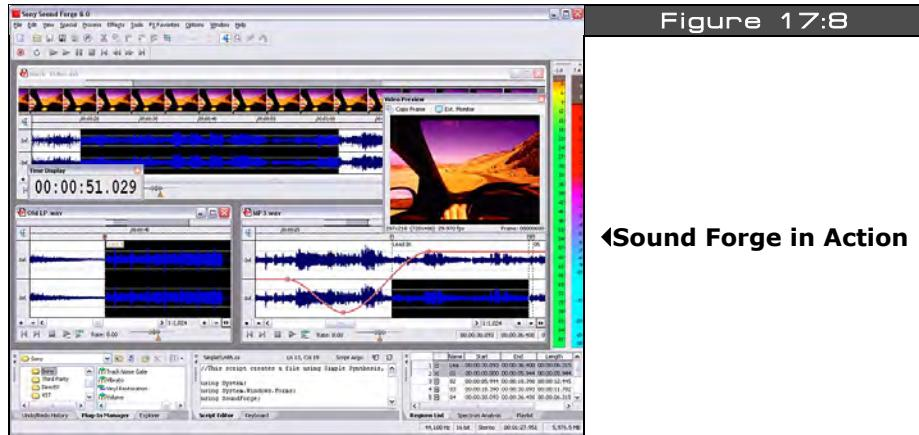

Figure 17:8
▲A 2D Level Editor (left) along with QuakeEd (right) Figure 17:6
**Space”** as examples. 3D modeling is not something you will learn overnight, it takes months to get the hang of and year to completely master, but the results are breathtaking. You can create absolutely photoreal imagery and render it out or export the data out for use in your game engines. Of course, this isn’t going to affect us too much considering a single model in a next generation game might be 4-32 megs of data. But, the idea is 3D modelers can be used to create sprites, backgrounds, etc. that look really cool and have proper lighting; an example done in Truspace is shown in Figure 17:7.
Anyway, there are lots of sound programs on the market, but some of the more common ones used for simpler games are *Cool Edit Pro* (which is now Adobe Audition), and *Sound Forge Audio Studio* (Sony). Both are downloadable off the internet and I recommend both of them. Sound Forge is my favorite though. Figure 17:8 shows Sound Forge in action. More or